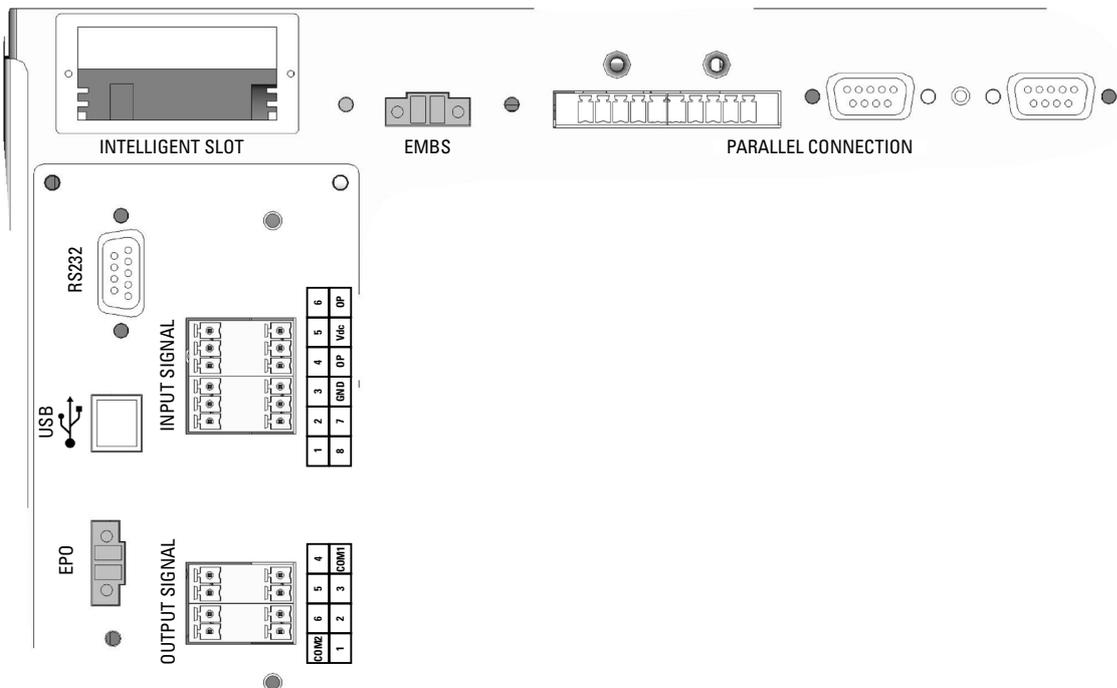

Fig. 13. Detailed view of the external interface and communications.
The unit's interface with the outside consists of various dedicated input and output signals, and different ports and communication slots, as shown below in Fig. 13:
- Parallel ports (see Parallel Connection Fig. 13)
The unit's manual bypass switch (**Q5**) has a microswitch fitted behind its mechanical lock. This normally open contact is extended to a two-terminal strip (**EMBS**) located behind the unit (see Fig. 13 and Fig. 16) and internally connected to the UPS control.
The UPS has two terminals for the installation of an external Emergency Power Off (EPO) button (Fig. 13).